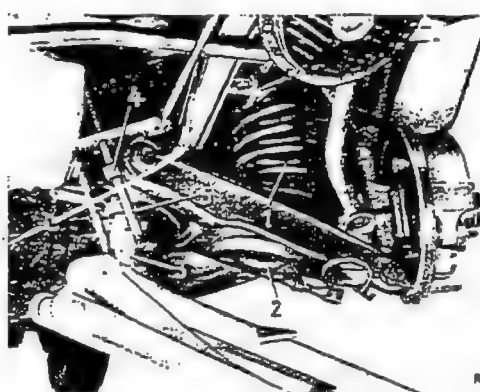

Fig. 32-4/4
8. Use the jack with Cradle 111 589 00 63 (3) to press the lower control arm (4) upward after having correctly positioned the pivot pin by means of the two Guides 120 589 01 31 (5) (Fig. 32-4/4).